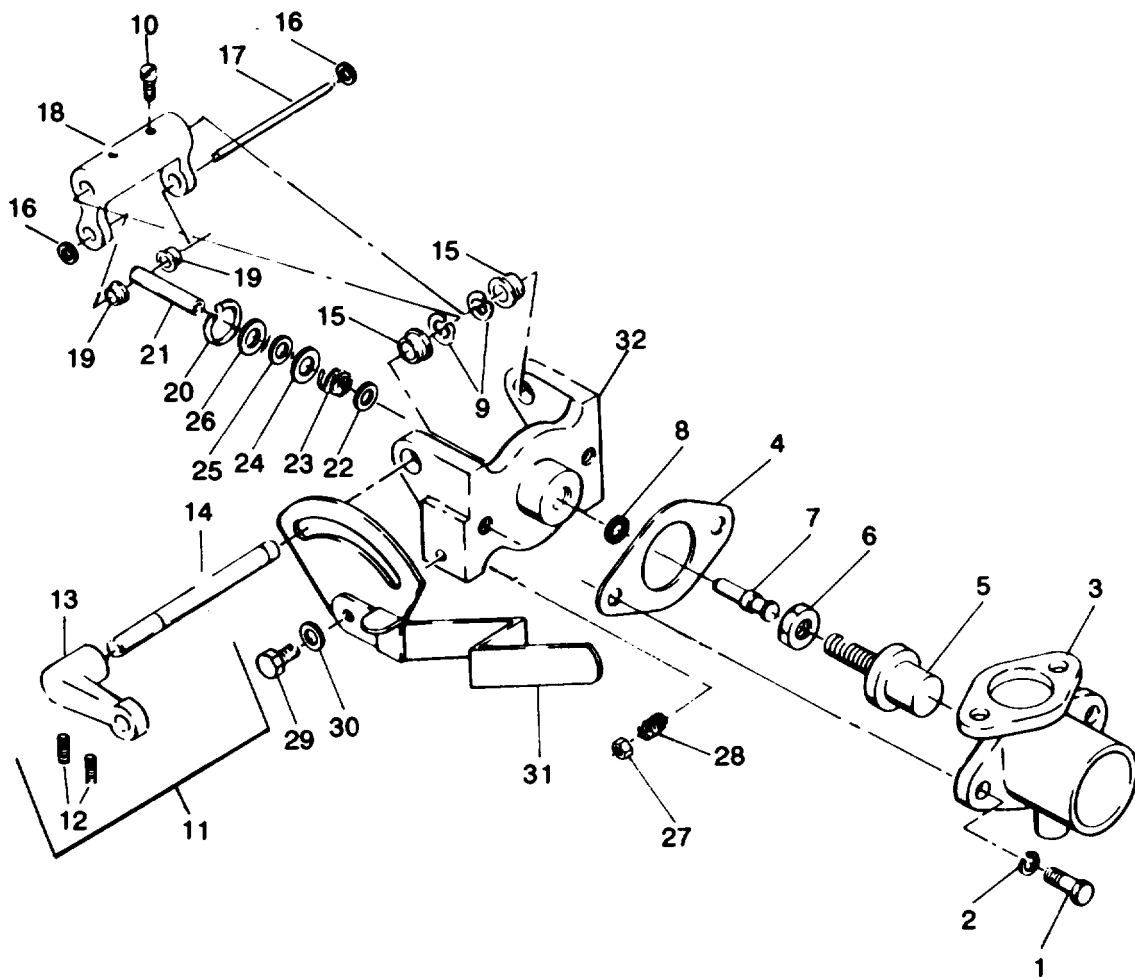

Figure 3-26. Shutter Control Assembly, Exploded View
- (1) Remove screws (1, figure 3-26) and lockwashers (2) to remove housing (3), gasket (4), thermostat (5), nut (6) and piston (7). Discard gasket.
- (2) Remove and discard packing (8).
- (3) Remove retaining rings (9) and loosen setscrews (10) to remove shaft assembly (11). Do not disassemble setscrews (12), cam (13) and shaft (14) unless inspection reveals damage.
- (4) Remove bushings (15).
- (5) Remove retaining rings (16) to remove shaft (17), lever (18) and bushings (19).
- (6) Remove retaining ring (20) to remove actuator pin (21) with assembled parts.
- (7) Remove retainer (22), spring (23) and washers (24, 25, and 26) from actuator pin.
- (8) Remove nut (27), spring (28), screw (29), and flat washer (30) to remove manual control arm (31) from flange (32).
- (1) Position flange (32, figure 3-26) to install manual control are (31), flat washer (30), screw (29), spring (28) and nut (27).
- (2) Install washers (26, 25, and 24) onto actuator pin, spring (23), and retainer (22).
- (3) Install actuator pin (21), with assembled parts, and retaining ring (20).
- (4) Install bushings (19), lever (18), shaft (17), and retaining rings (16)
- (5) Install bushings (15).
- (6) If removed, install shaft (14), cam (13), setscrews (12). Position shaft assembly (11) and tighten setscrews (10), and install retaining rings (9).
- (7) Install new packing (8)
- (8) Install piston (7), nut (6), thermostat (5), new gasket (4), onto housing (3), with lockwashers (2) and screws (1).